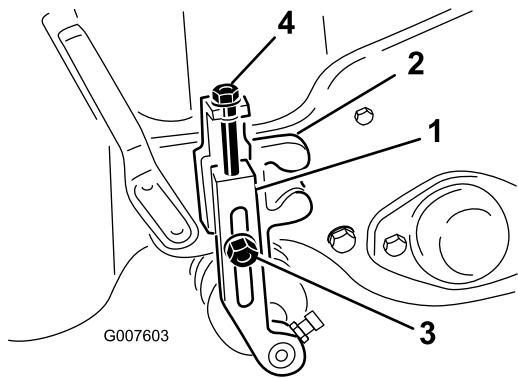

Figure 51
2. Loosen the locknuts securing the height-of-cut arms to the height-of-cut brackets (Figure 51).